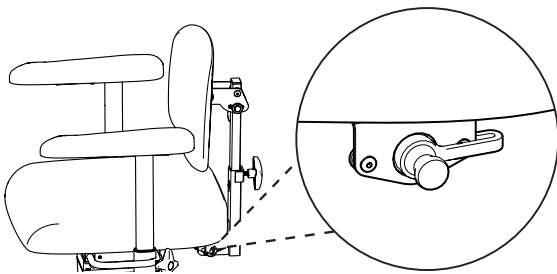

Figure 2.4. Charging outlet plug connection under the seat.
1. Inset the plug into the charging outlet (see Figure 2.4). The charging outlet is usually placed in the rear edge under the seat.